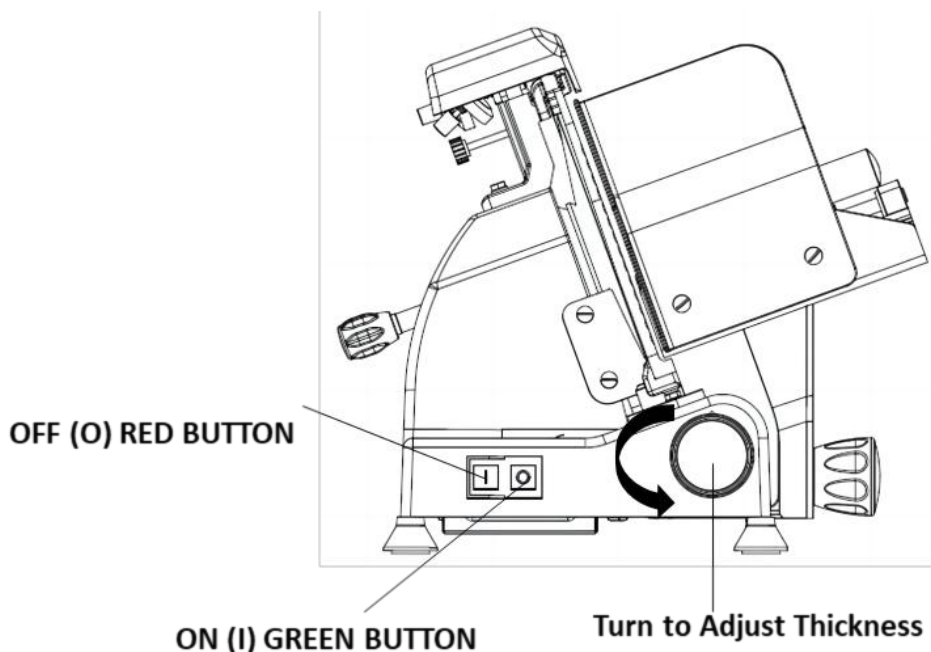

Fig. 2
5.To turn the meat slicer ON, push the Green "I" button. (Refer to Fig. 2)
6.To turn the meat slicer OFF, push the Red "O" button. (Refer to Fig. 2)
12. When finished, turn the meat slicer "OFF" (O) by pushing the Red button. (Refer to Fig. 2)